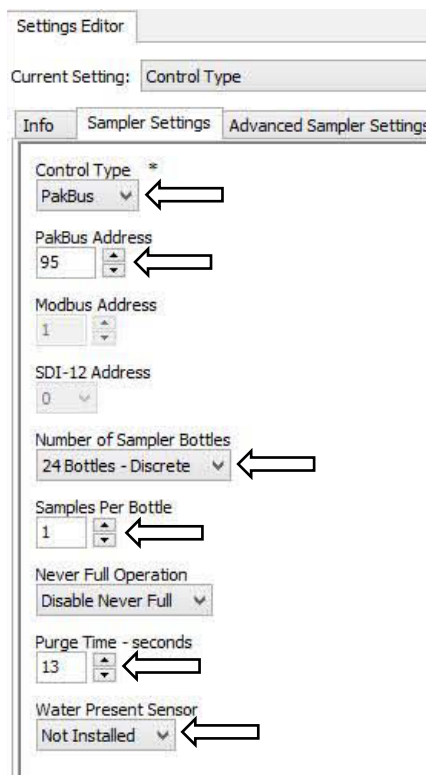

FIGURE 8-11. PakBus® Setting Editor screen
1. Once connected to the VSC100 in *DevConfig*, click the **Sampler Settings** tab (FIGURE 8-11).